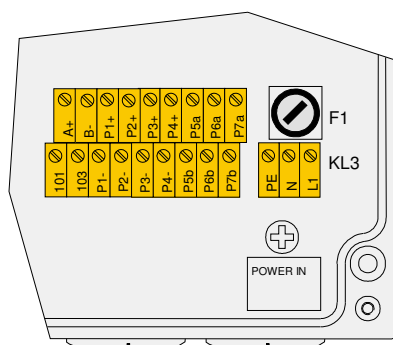

Fig. 4.8: Terminals for the connection of the outputs and of the power supply
- Connect the leads of the cable to the terminals of terminal strip KL3 (see Fig. 4.8) as indicated in Table 4.1.
- Connect the leads to the terminals of terminal strip KL2 (see Fig. 4.8) as indicated at the end of the output configuration dialogue.